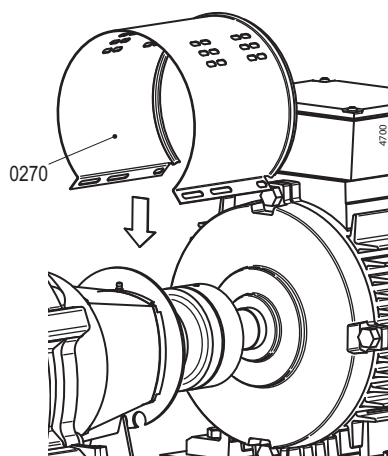

Figure 13: Fitting the jacket at motor side.
- 2 Remove both jackets (0270). See figure 13.